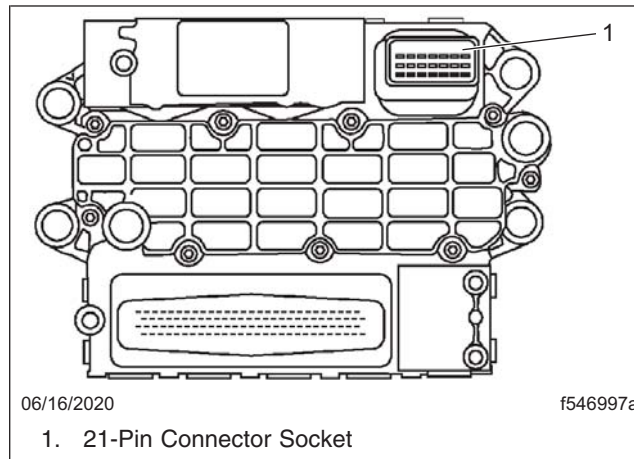

Fig. 9, Motor Control Module (MCM)
16. Remove the Motor Control Module (MCM) 21-pin connector ENG_H_ECU_MCM_1A by releasing the lever lock. Pull the 21-pin connector away from the MCM. See Fig. 9, Fig. 10 and Fig. 11.